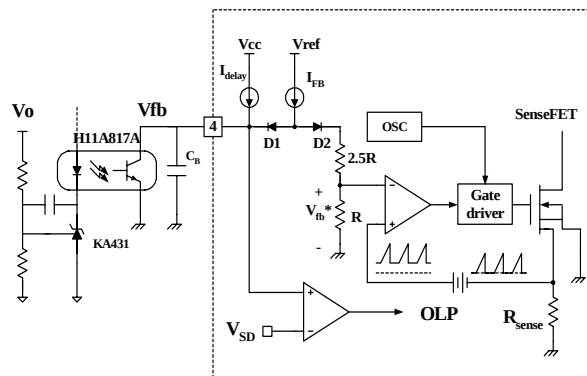

Figure 11. Pulse width modulation (PWM) circuit
3. Feedback Control : FSCQ1265RT employs current mode control, as shown in Figure 11. An opto-coupler (such as the H11A817A) and shunt regulator (such as the KA431) are typically used to implement the feedback network. Comparing the feedback voltage with the voltage across the Rsense resistor plus an offset voltage makes it possible to control the switching duty cycle. When the reference pin voltage of the KA431 exceeds the internal reference voltage of 2.5V, the H11A817A LED current increases, thus pulling down the feedback voltage and reducing the duty cycle. This event typically happens when the input voltage is increased or the output load is decreased.
3.1 Pulse-by-pulse current limit: Because current mode control is employed, the peak current through the Sense FET is limited by the inverting input of PWM comparator (V_{fb}^*) as shown in Figure 11. The feedback current (I_{FB}) and internal resistors are designed so that the maximum cathode voltage of diode D2 is about 2.8V, which occurs when all I_{FB} flows through the internal resistors. Since D1 is blocked when the feedback voltage (V_{fb}) exceeds 2.8V, the maximum voltage of the cathode of D2 is clamped at this voltage, thus clamping V_{fb}^* . Therefore, the peak value of the current through the Sense FET is limited.